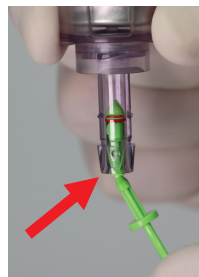

figure 8
- h) Snap off end of Plunger protruding from Syringe, as shown in figure 8.